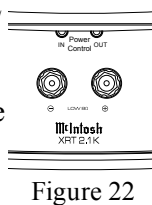

Figure 22
5. Connect a power control cable from Power Amplifier C POWER CONTROL OUT the XRT2.1K POWER CONTROL IN. Refer to figure 22.